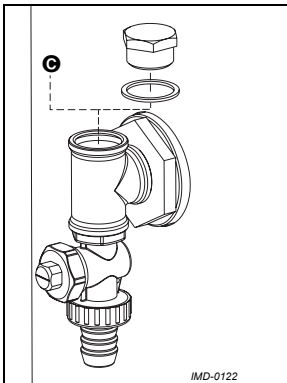

Figure 3.3 Drain valve
1. Fit the standard drain valve ❶ supplied.
2. Refer to paragraph 3.6.5 if a circulation pipe is to be fitted. Otherwise, fit the sealing nut and gasket supplied with the drain valve. See Figure 3.3.
See ⑥ in Figure 3.2. and Figure 3.3.
1. Fit a circulation pump ⑥ of the correct capacity for the length and resistance of the circulation system.
2. Fit a non-return valve ⑤ behind the circulation pump to guarantee the direction of circulation.
3. Fit two stop valves for servicing ④.
4. Connect the circulation pipe to the T-piece on the drain valve ⑦. See Figure 3.3.